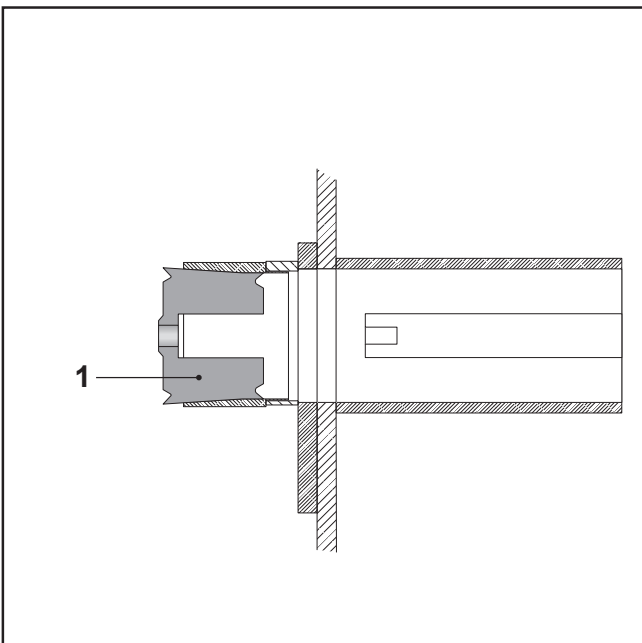

FIG.69
- Lubricate the piston (FIG. 69-REF. 1) with Vaseline, and slide the piston into the tapered part of the guide ring.